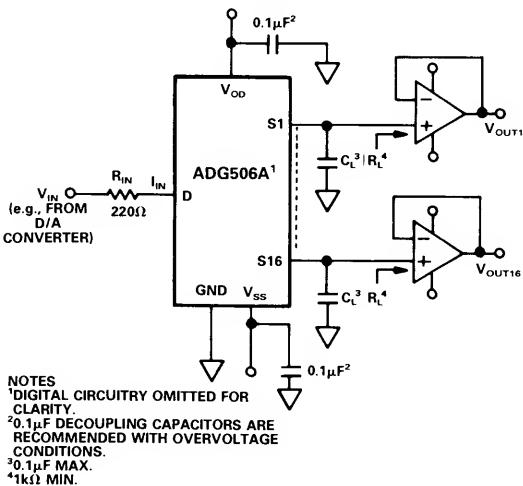

Figure 2. ADG506A De-Multiplexer Circuit
Figure 2 shows a typical de-multiplexer circuit. In this application it is used to provide a 16-channel sample-
The overvoltage protection outlined above uses external current limiting resistors in series with the S (D) inputs of the multiplexer. These resistors could also be incorporated on-board the die of the multiplexer, but this would lead to power dissipation problems and therefore restrict the overvoltage amplitude allowed. Overvoltage protected multiplexers from some manufacturers use on-chip resistors (with the associated power dissipation problem), but these are employed to protect the S inputs only. This means that in the de-multiplexer application shown in Figure 2, an external resistor ( $R_{\text{IN}}$ ) is still required if the source of  $V_{\text{IN}}$  can supply greater than  $65\text{mA}$ . In this instance, on-chip resistors actually cause problems by increasing the settling time of the sample-and-holds. In conclusion, external versus internal protection is preferable for the two reasons outlined above.